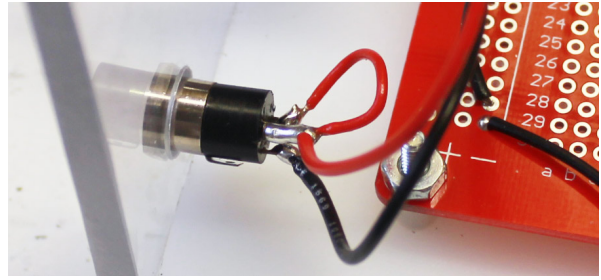

Figure 26
26. Reattach the audio output jack to the face plate as seen in Figure 26.